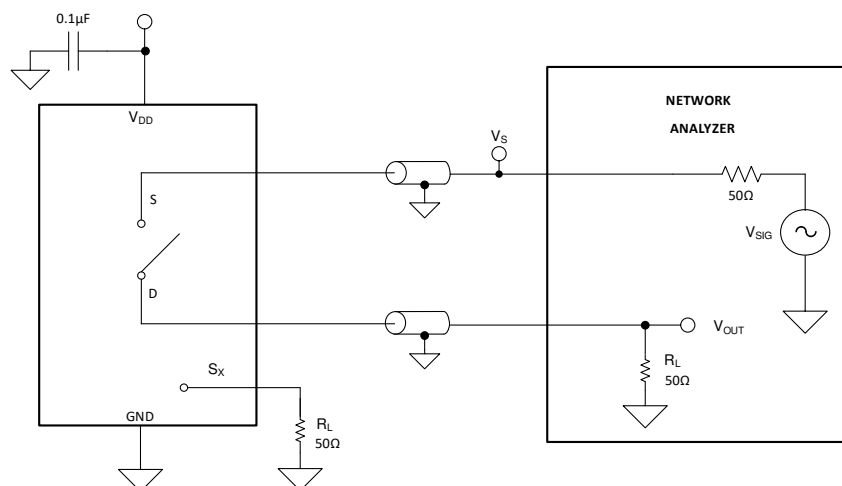

図 6-8. Off Isolation Measurement Setup
Off isolation is defined as the ratio of the signal at the drain pin (D) of the device when a signal is applied to the source pin (S_x) of an off-channel. 図 6-8 shows the setup used to measure, and the equation used to calculate off isolation.